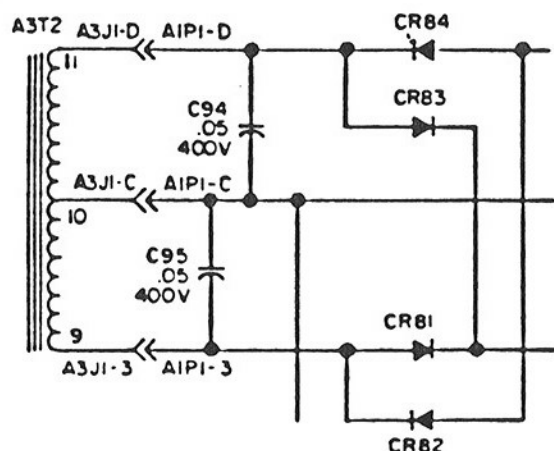

FIG. 2-2 (SEE CHANGE 2)
- C94 and C95 are added across the secondary of A3T2 as shown in Fig 2-2. Both are 0.05 $\mu$ F, 400V, ceramic, HP Part No. 0150-0052. Make these changes to the parts list and the schematic.